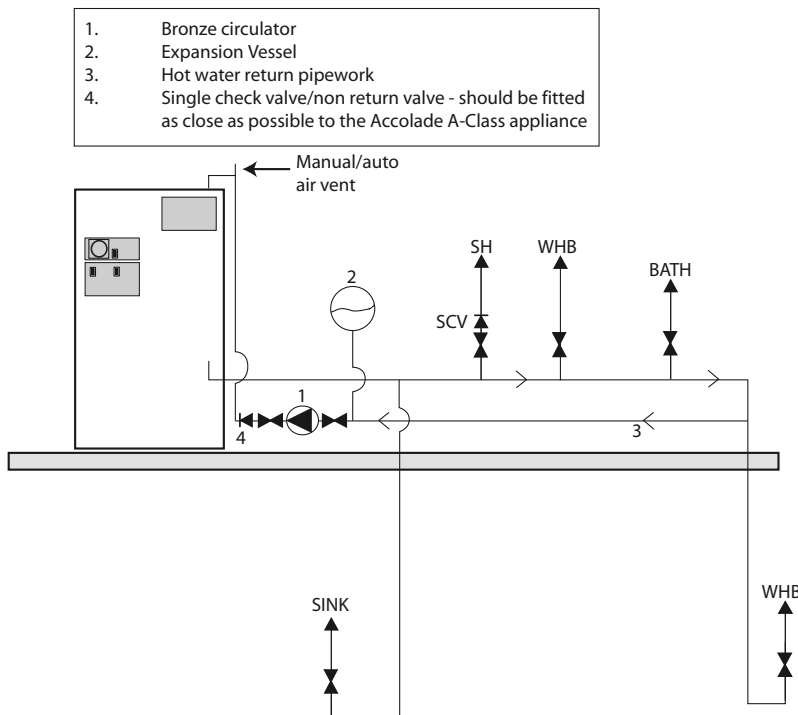

Figure 2.2 Schematic diagram of typical secondary hot water circulation
- b. A secondary hot water circulation system as shown schematically in figure 2.2.